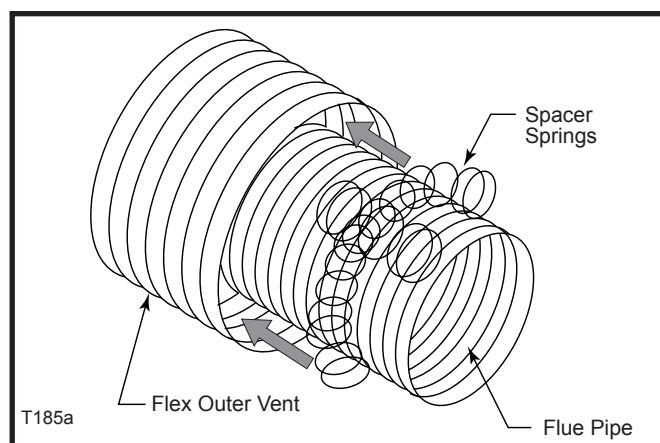
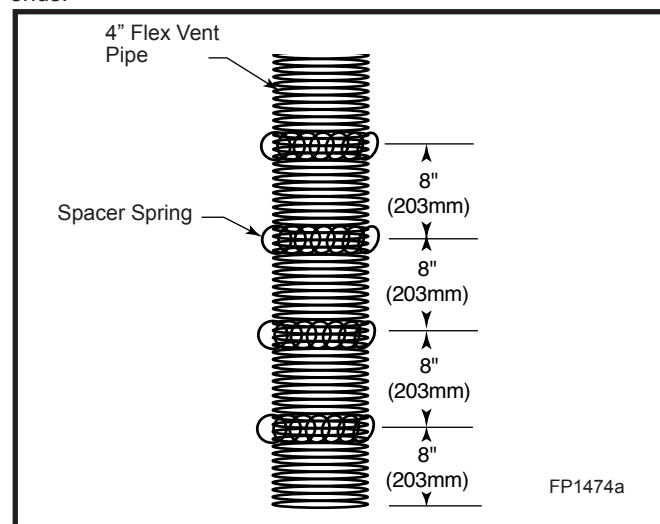

Fig. 23 Wrap spacer spring around flex flue pipe, overlapping ends.
Fig. 24 Install spacer springs.
Install the four (4) spacer springs on the 4" flex vent pipe. When installing the spacer springs around the 4" pipe, stretch the spring to approximately 15" (381 mm), wrap the spring around the pipe and interlock the ends of the spacer spring approximately 2" (51 mm). (Fig. 23) Measure from 8" (203 mm) the end of the pipe. Place the next spring 8" (203 mm) from the previously installed spring. Place the next spring approximately 8" (203 mm) from the last spring. Finally place the last spring approximately 8" (203 mm) from the last spring installed. (Fig. 24) Maintain equal spacing between spacer springs.
Install window well (not supplied). Refill hole with 12" (305 mm) of coarse gravel leaving a clearance of approximately 4" (102 mm) below snorkel. (Fig. 23)